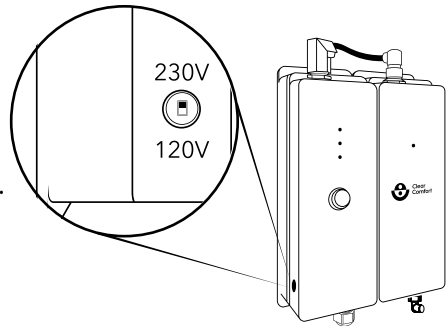

Figure 2: Ballast Electrical Switch
3. Set the switch on the ballast on the orange Control Unit: Remove plug in the left side of the Control Unit. With a small screwdriver, slide the switch in the appropriate direction according to the label on the Control Unit. Re-install the plug. See Figure 2.
3. Toggle ballast switch between 120V and 230V to match required voltage. See Figure 2. Ensure white marked saddle switch matches correct voltage.
2. Remove protective ballast switch cover. Toggle the ballast switch between 120V and 230V to match required voltage. See Figure 2.